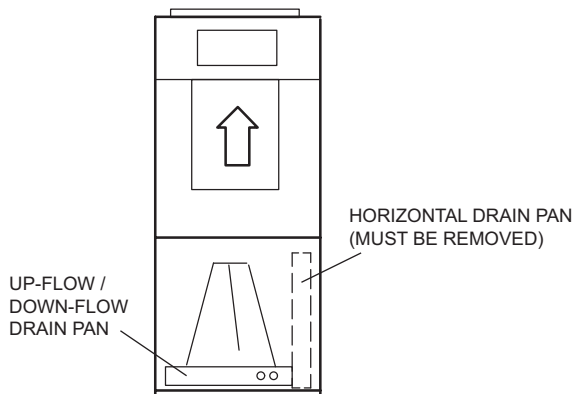

FIGURE 6. Upflow Configuration
- 4 - After removing the horizontal drain pan, place the unit in the desired location. Set unit so that it is level. Connect return and supply air plenums as required using sheet metal screws as illustrated in figure 6.